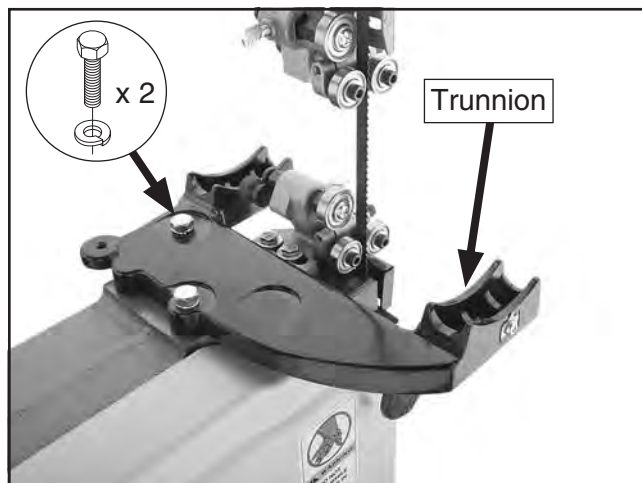

Figure 14. Trunnion installed.
9. Position the table trunnion on the bandsaw, as shown in **Figure 14**, then secure it with the (2) M8-1.25 x 30 hex bolts and (2) 8mm lock washers.